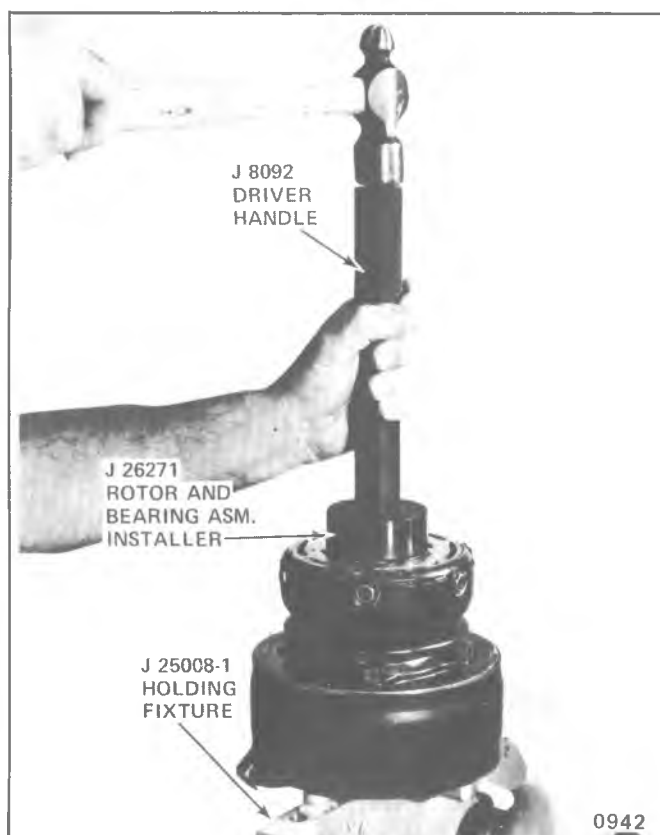

Fig. 1D-88 Installing R-4 Rotor & Bearing Asm. (On Bench)
8. Tighten pulley rim mounting screws to 100 inch-pounds torque and lock screw heads in place by bending special lock washers (Fig. 1D-88).